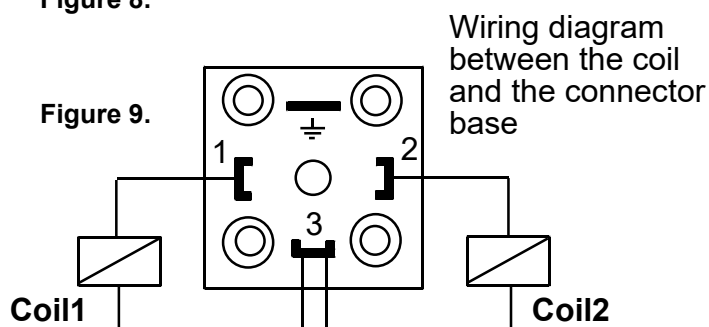
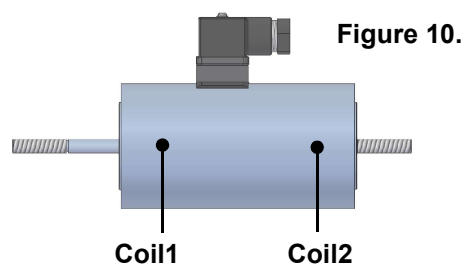

Figure 9.
Figure 10.
Take out the screws, take in the supply cables in the power terminals and screw them again.  Figure 8. Wiring diagram between the coil and the connector base  Figure 9.
Figure 8.  Figure 9. Take out the screws, take in the supply cables in the power terminals and screw them again. Electric diagram  Wiring diagram between the coil and the connector base.
Electric diagram  Wiring diagram between the coil and the connector base  Figure 9. Coil
Figure 8. Take out the screws, take in the supply cables in the power terminals and screw them again.  Figure 9. Coil Electric diagram  Wiring diagram between the coil and the connector base.
7) Remove the electronic plate  Figure 8.	8) Take off the stuffing box  Stuffing box Figure 9. 9) Conect the supply cables  Figure 10. Take out the screws, take in the supply cables in the power terminals and screw them again.
Take out the screws, take in the supply cables in the power terminals and screw them again.  Figure 8.	Wiring diagram between the coil and the connector base  Figure 9.